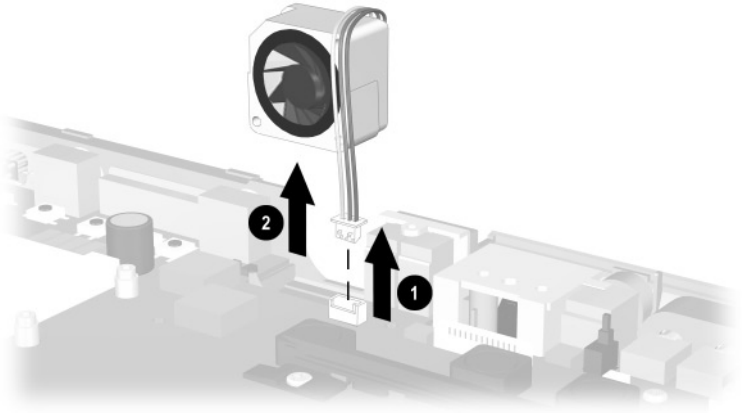

Figure 5-42. Removing the Fan
2. Disconnect the fan cable ❶ from the system board (Figure 5-42).
3. Remove the fan ❷ from the base enclosure.